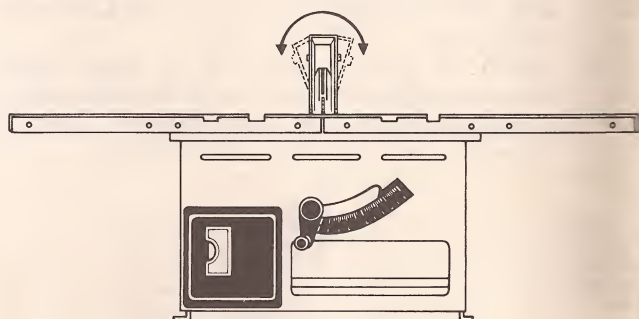

Figure 28
- A. Adjust "Lean" first. (See **figure 28**.)